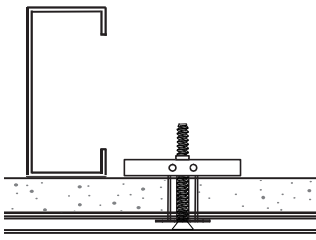

Fig. 8
- When thin gauge metal studs are present – follow guidelines accompanying **Figure 8 & 9**.